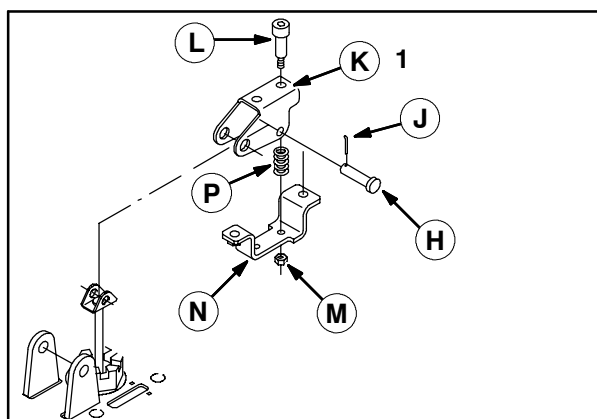

FIG. 9
11. Remove the clevis pin (H) and cotter pin (J) from the brake mounting channel (K) and remove the brake mounting channel from the machine. Set aside the cotter pin. Discard the clevis pin. Refer to Fig. 9.
12. Remove the bolts (L) and hex nuts (M) securing the spring mounting channel (N) and compression spring (P) to the brake mounting channel (K). Discard the brake mounting channel. Set aside the remaining parts. Refer to Fig. 9.
13. Use the bolts (L) and hex nuts (M) to install the compression spring (P) and spring mounting channel (N) onto the new brake mounting channel (1). Refer to Fig. 9.